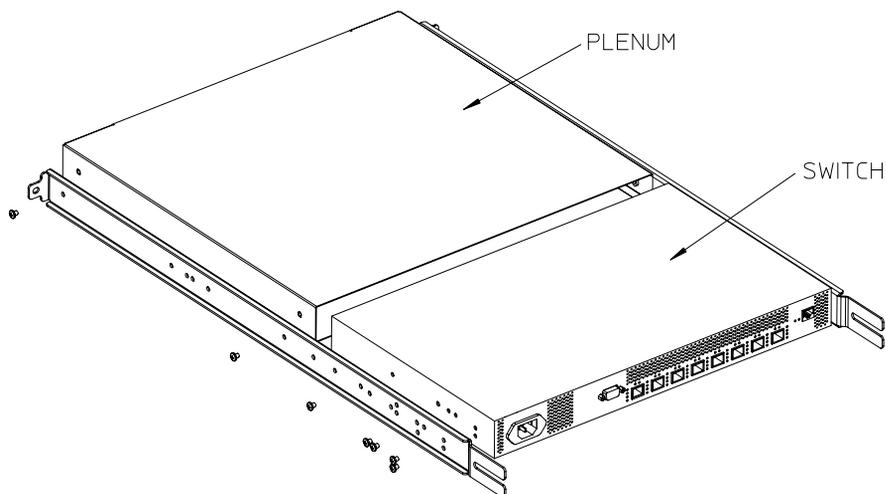

Figure 8: Assembling the inner rails on a SAN Switch 2/8 with plenum
- b. For the SAN Switch 2/8, assemble the two inner rails (one on each side) to the switch and plenum using the appropriate number (from step 5) of #8-32 x 3/16-inch Phillips pan-head screws as shown in Figure 8.